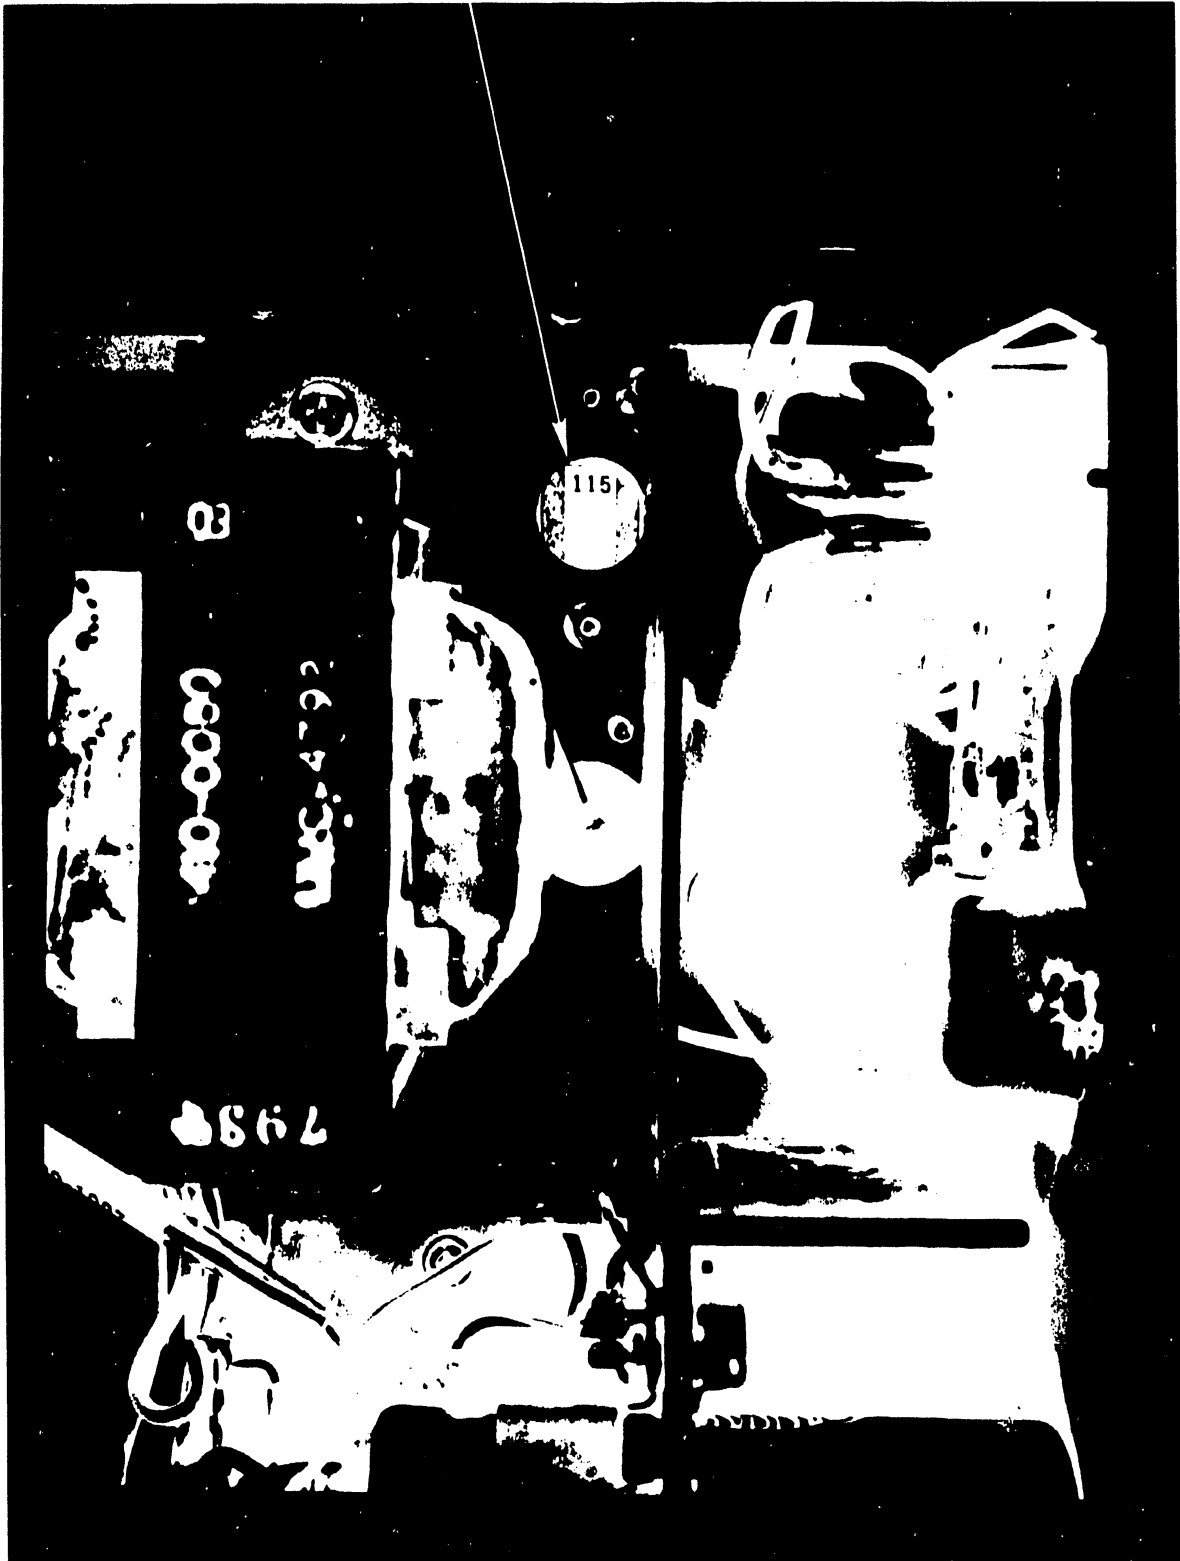

FIGURE 3-3 VOLTAGE-SELECT SWITCH
- B. Ensure that the ac line voltage and frequency provided at the installation site is correct for the unit. (The line voltage and frequency at which the unit is set to operate is indicated on the unit serial number tag; refer to FIGURE 3-2.) Verify that the voltage-select switch (ref: FIGURE 3-3) is set properly. Verify that the multiplexer ac power ON/OFF switch is in the OFF position. The ac power cord may now be plugged in.